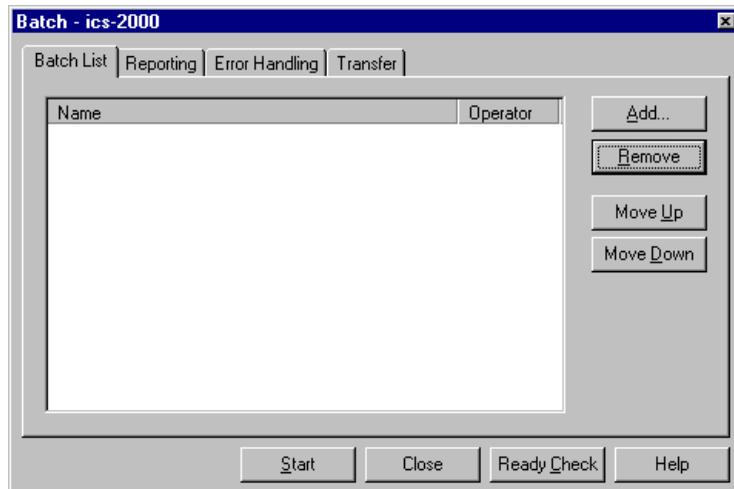

Figure 3-13. Batch Dialog Box
3. To start the sample processing, make sure the System Control Panel is open (see Section 3.3) and is the active window. Then, select **Edit** from the **Batch** menu. The Batch dialog box opens (see Figure 3-13).